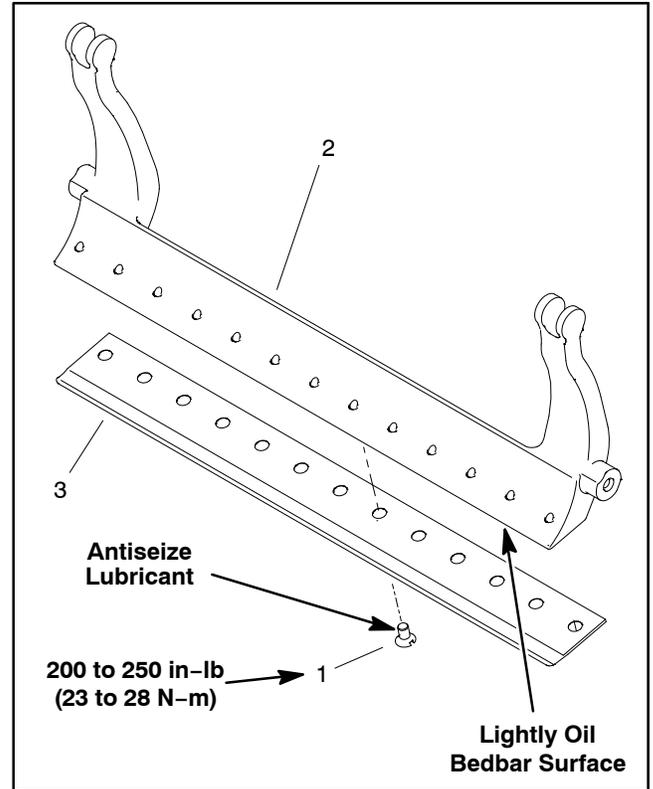

Figure 34
2. Remove screws from bedbar using a socket wrench and bedknife screw tool (see Special Tools in this chapter). Discard screws. Remove bedknife from the bedbar (Fig. 34).